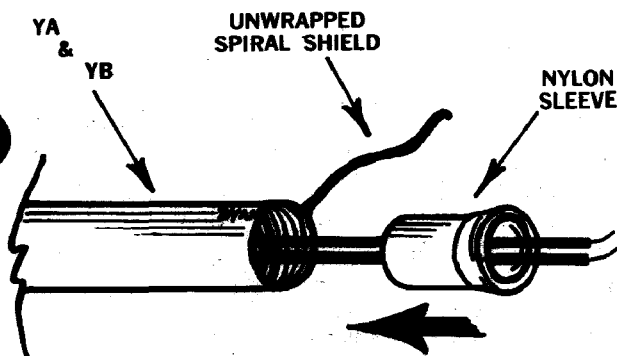

FIGURE 9
- ☒ BF6-12. Connect a 4½" blue wire to Pin 2, P3 (S).
- ☒ BF6-13. Connect a 6" green/white wire to Pin 11, SS3 (S).
- ☒ BF6-14. Connect a 4" yellow/white wire to Pin 5, SS3 (S).
- ☒ BF6-15. Connect a 4¾" green wire to Pin 10, SW3 (S).
- ☒ BF6-16. Place a 3¼" piece of black conductive cable (ESS)* over a 4¼" black wire and a 4½" green wire. At one end unwrap about ¾" of the spiral shield. Slide a nylon sleeve over the wires at both ends of the cable. See Fig. 9. At the end without the unwrapped shield, connect the black wire to Pin 1, D1B and the green wire to Pin 8, SS3 (S). DO NOT CONNECT OTHER ENDS.
- ☒ BF6-17. Place a 3¼" piece of black conductive cable (ESS)* over a 4½" black wire and a 5½" yellow wire. At one end unwrap about ¾" of the spiral shield. Insert nylon sleeves as in BF6-16. At the end without the unwrapped shield, connect the black wire to Pin 1, D1A and the yellow wire to Pin 2, SS3 (S). DO NOT CONNECT OTHER ENDS.
- ☒ **BR3-1.** Place a 13½" piece of black conductive cable (ESS) over a 15½" green wire, a 16" yellow wire, and a 15½" black wire. At one end unwrap about 1" of the metal shield. Slide a nylon sleeve over the wires at both ends into the cable. See Fig. 9. Connect the black wire at the end without the unwrapped shield, to Pin 4, J2 (~~SS~~), the yellow wire to Pin 2, D2MB (~~SS~~) and the green wire to Pin 3, J1 (~~SS~~). DO NOT CONNECT OTHER ENDS AT THIS TIME.